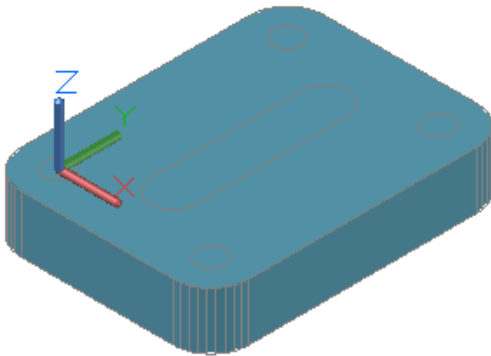

Figure Step 13
Step 13 Set the current visual style to Realistic. (Figure Step 13)